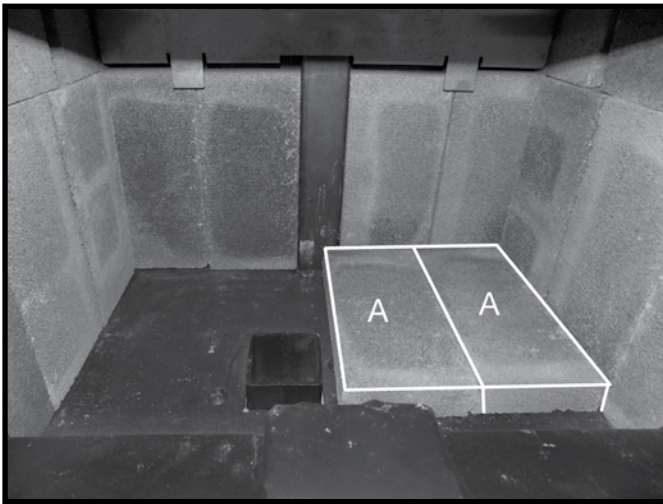

Figure 28: First two floor bricks in place.
8. Place two "A" firebricks on the firebox floor as shown in Figure 28.